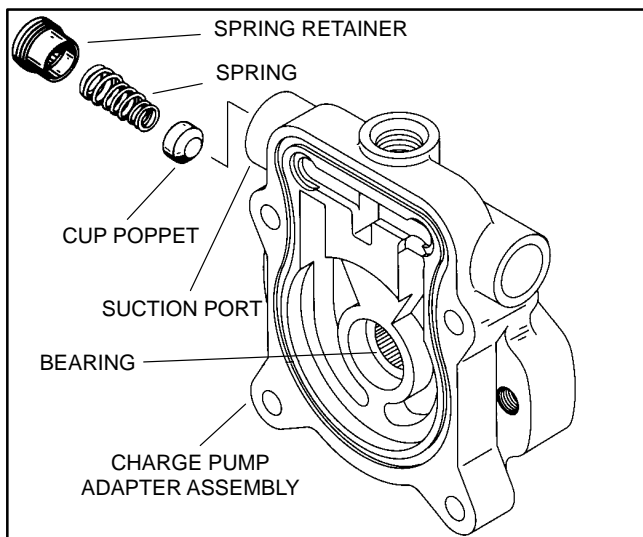
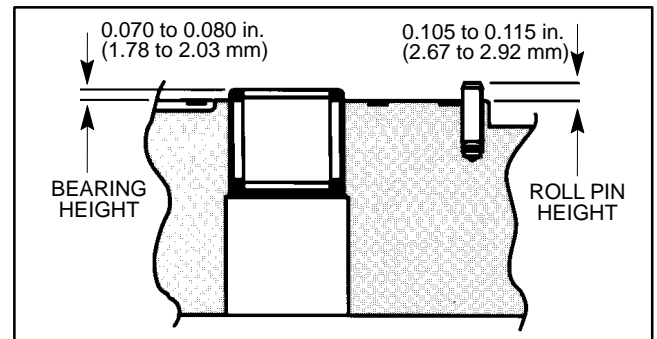

Figure 25
Figure 28
2. Remove cap screws (1 and 27) and slide charge pump adapter assembly (2) from the backplate assembly (25) clear of the shaft (31) and gerotor assembly (3).
3. Remove O-ring (26) from the charge pump adapter assembly (2).
4. Remove outer ring from either the inner ring of the gerotor assembly (3) or the charge pump adapter assembly (2). Further disassembly of the gerotor assembly is not necessary.
5. The charge pump adapter assembly (2) can be disassembled as follows (see Fig. 25):
6. Remove gerotor assembly (3) inner ring and coupler from the shaft (31).
7. Lift backplate assembly (25) up and off from the shaft (31) and housing assembly (15). Remove valve plate (6) from the backplate assembly or rotating parts kit (29).
8. Remove valve assembly (5) and O-rings (38 and 39) from the backplate assembly (25). Disassembly of the valve assembly is not necessary.
9. Remove both plugs (21), O-rings (40), spring (22), and seats (23) from the backplate assembly (25).
10. Remove gasket (24) from the housing (15) or backplate assembly (25).
2. Inspect charge pump adapter assembly (see Fig. 25).
A. Bearing needles must remain in bearing cage and move freely. Verify that bearing height on the numbered end meets the dimension in Figure 28.
B. Check that the roll pin is tight and meets the height in Figure 28.
10. Set rotating kit assembly (29) on a working surface with the piston shoes facing up. Insert shaft (31) through the rotating kit assembly with the flanged end of the housing assembly up. Position rotating kit assembly into the housing assembly.
11. Make sure piston block and shaft (31) splines are aligned. Make sure piston block is engaged fully so the piston shoes are in contact with the camplate (20). **Make sure all parts are in their proper position before proceeding to the next step.**
12. Hold rotating kit assembly (29) in place, and clamp housing assembly (15) with the flange end down into a vise with protected jaws. Install gasket (24) and two dowel pins (18) into the housing assembly (15).
13. If necessary, press new bearing (4) or roll pin into backplate assembly (25) to the dimension shown in Figure 28. Bearing should be installed with numbered end outward. Roll pin should be installed with split oriented away from the bearing.
14. Install seat (23) and spring (22) into backplate (25). Install new O-ring (40) and plug (21) into the backplate assembly. Torque plug from 95 to 105 ft-lb (13.1 to 14.5 kg-m).
15. Install new O-rings (38 and 39) and valve assembly (5) into the backplate assembly (25). Torque valve assembly from 27 to 30 ft-lb (3.7 to 4.1 kg-m).
16. Coat valve plate (6) with light coat of petroleum jelly on the steel side. Align the valve plate to the roll pin on the backplate (25). Install steel side of the valve plate to the backplate.
17. Install backplate assembly (25) to the housing assembly (15). Make sure gasket (24), valve plate (6), and dowel pins (18) stay in place.
18. Install inner ring and coupler of gerotor assembly (3) into the backplate assembly (25) so that the V-groove on the coupler end enters the backplate assembly first. Lubricate the inner ring of the gerotor.
19. Reassemble charge pump adapter assembly (2) as follows (see Fig. 25):
20. Coat O-ring (26) and outer ring of gerotor assembly (3) with a light coat of petroleum jelly. Install O-ring and outer ring onto the charge pump adapter assembly (2). Install charge pump adapter plate onto the backplate assembly (25). Make sure O-ring and outer ring of gerotor assembly stay in place.
21. Secure charge pump adapter assembly (2) and backplate assembly (25) to the housing assembly (15) with cap screws (1 and 27). Torque cap screws from 17 to 20 ft-lb (2.3 to 22.8 kg-m).